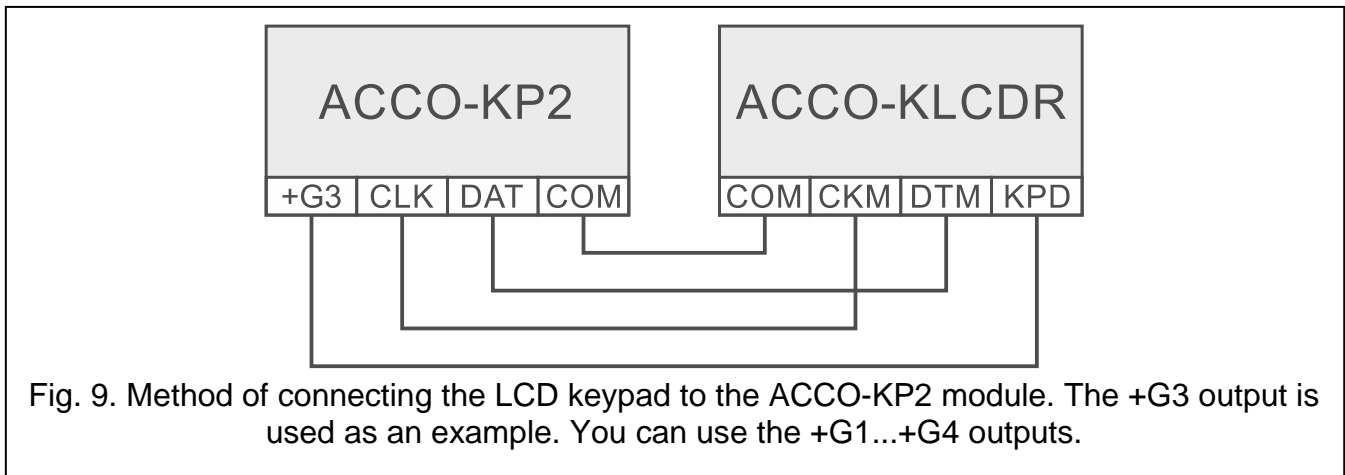

Fig. 9. Method of connecting the LCD keypad to the ACCO-KP2 module. The +G3 output is used as an example. You can use the +G1...+G4 outputs.
6. Connect the LCD keypad terminals to the appropriate module terminals (see Fig. 9).